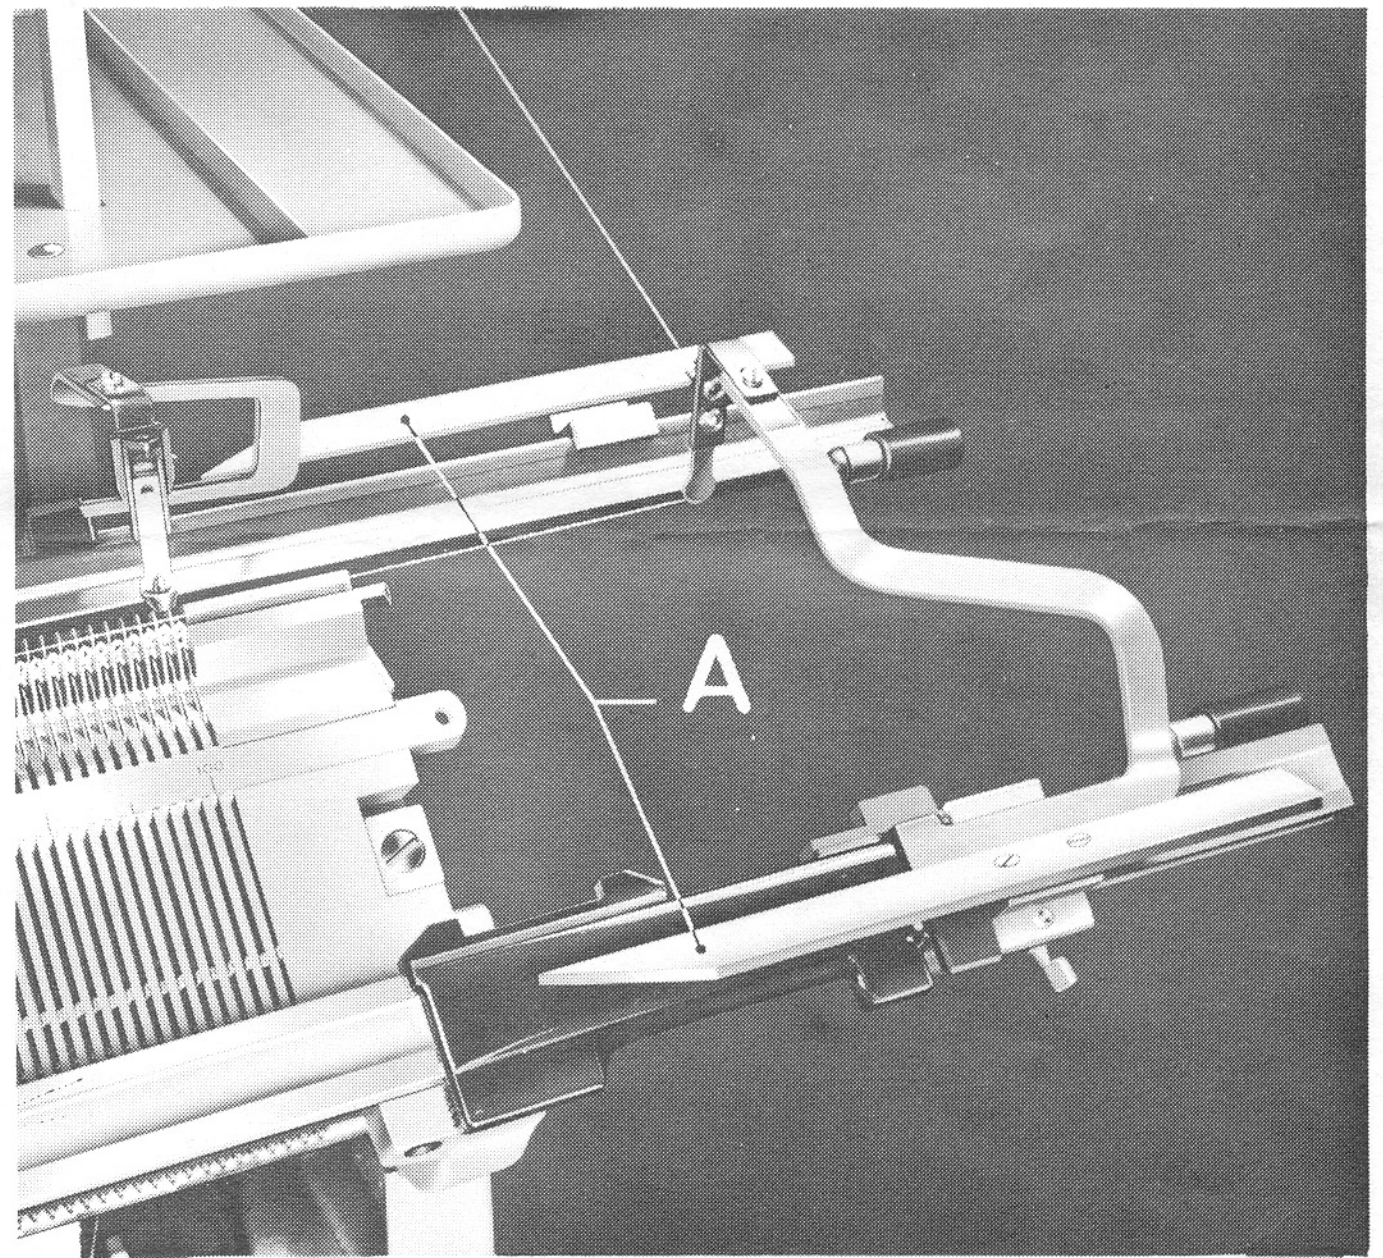

Fig. 2
Each two rows - when the carriage is at the right of the machine - the control drum with pegs revolves 1/12th of a revolution. This rotation is controlled by the inclined planes A, fig. 2 .
- Adjust the position of the inclined planes A, fig. 2. Caution : The drum must not turn before the carriage has left the needle field.